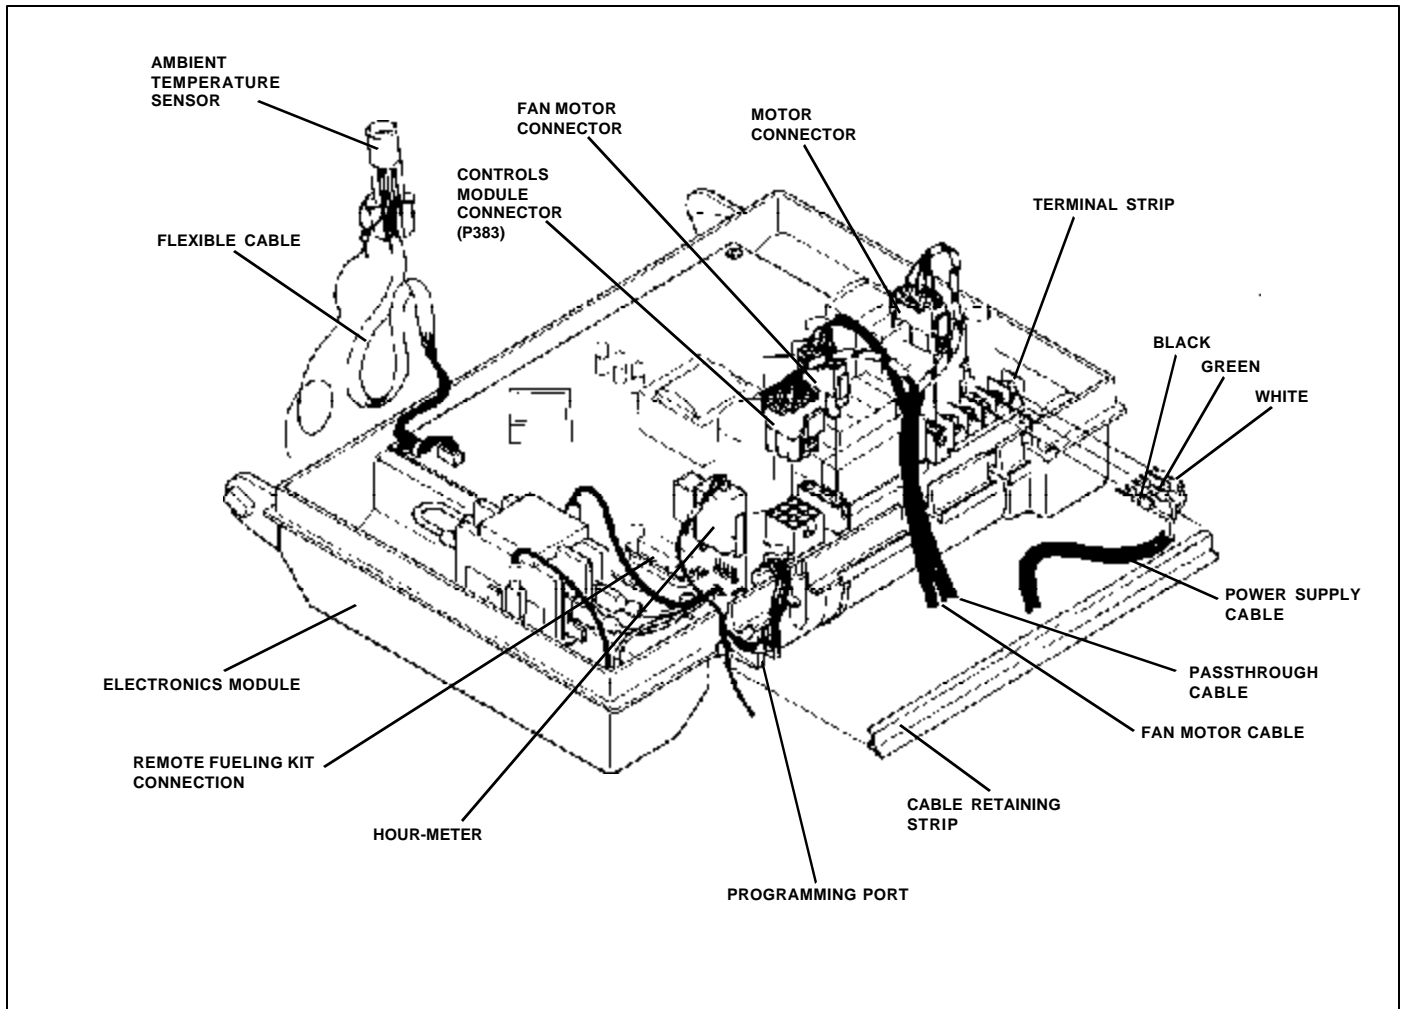

Figure 17 Electronics Module Connections
- Disconnect the *hour-meter* from the *Electronics Module* circuit board (See Figure 17).
- Unplug the two connectors on the end of the *passthrough cable*, from the *Electronics Module* (See Figure 17).
- Disconnect the power supply wires at the terminal strip on the *Electronics Module* (See Figure 17).
- Disconnect the power supply wires from the terminal strip located on the *Electronics Module* circuit board (See Figure 17).
- Re-establish all connections that were previously removed, according to the "*Electronics Module Removal*" instructions (See Figure 17).
The Programming Port is located on the underside of the *Electronics Module* (See Figure 17). To change settings, refer to the Section 3.3 "Field Programming" in this manual.
- Disconnect the power supply wires inside the junction box and not at the terminal strip on the *Electronics Module* (See Figure 17).